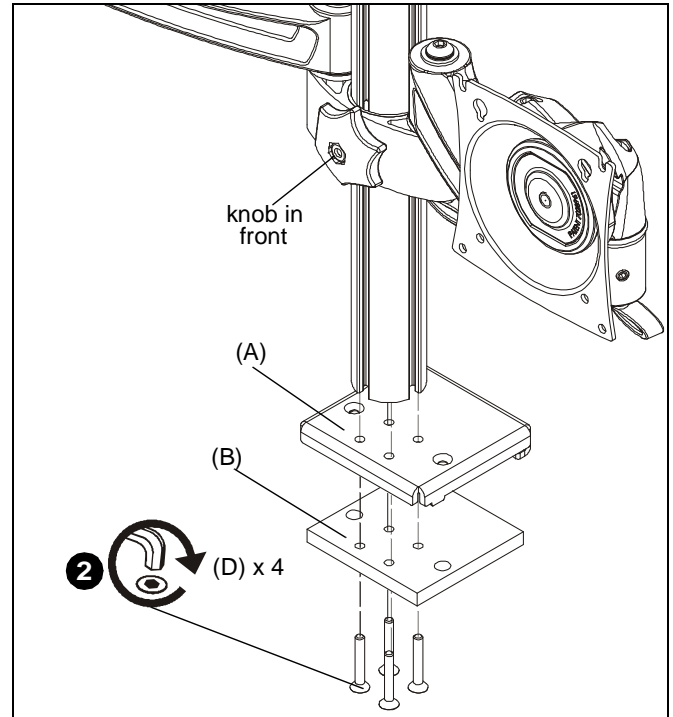

Figure 2
2. Use four #10-24 x 1 1/4" flat head cap screws (D) to secure support plate (B) and cover plate (A) to K1C/K2C column. (See Figure 2)
NOTE: If space will be limited behind mount, attach K1C200/ K2C200 mounts so that height adjustment knob is in the front. (See Figure 2)